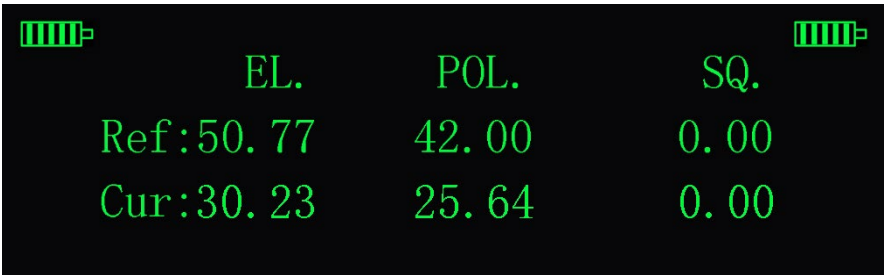

Figure 5-13 The Prompt of Alignment
1. According to the satellite direction, adjust the antenna elevation, polarization and azimuth to align the satellite. In the adjustment process, you can refer to the prompt information shown in Figure 5-13 and 5-14.